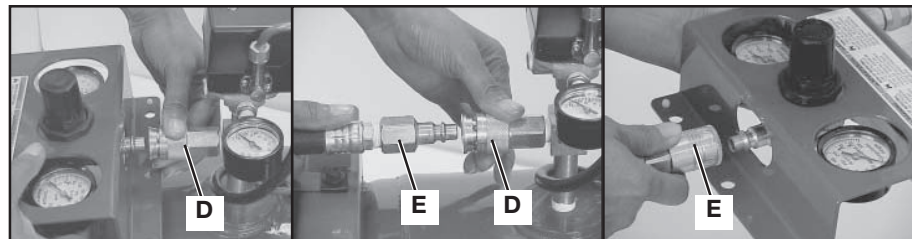

Fig. 5
1. Hold “quadraport” and pull quick-connect coupler (D) back to release and remove as shown in Figure 5.
2. Attach one end of a 1/2” hose (E) with 3/8” quick-connect back flow safety check valve (provided in kit) as shown in Figure 5. Make sure quick-connect coupler is secure.
- Attach the other end of the 1/2" hose (E) with 3/8" universal quick connect body to the "quadraport" as shown in figure 5. **NOTE: See Figure below to assemble 3/8" universal quick connect body to hose.**